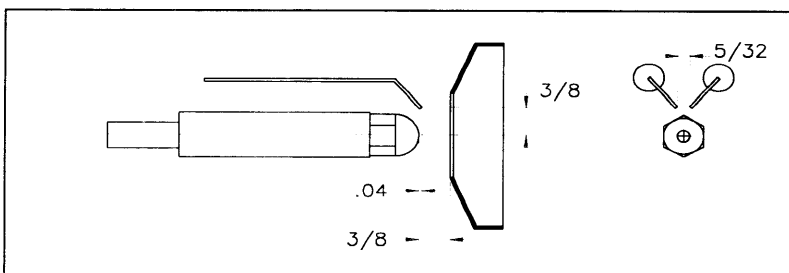

Figure 22-6
6. With the electrodes exposed, check them for the proper settings as called for in Figure 22-6 & 9, pages 7 & 8. Check for any hairline cracks in the insulators. Should replacement of burner electrodes be required, certain procedures must be followed. In all cases, removal of the electrodes is accomplished by loosening the electrode mounting clamps. Draw the electrodes out of the nozzle assembly through the holes in the pressure plate.
11. Measure and set electrodes according to Figure 22-6 & 9, pages 7 & 8. After the gaps and setting are complete, fully tighten the electrode mounting clamp. **Do not overtighten or the insulation may crack.**
Check that the measurements between the nozzle, the ignition electrodes and the pressure plate correspond to Figure 22-6.